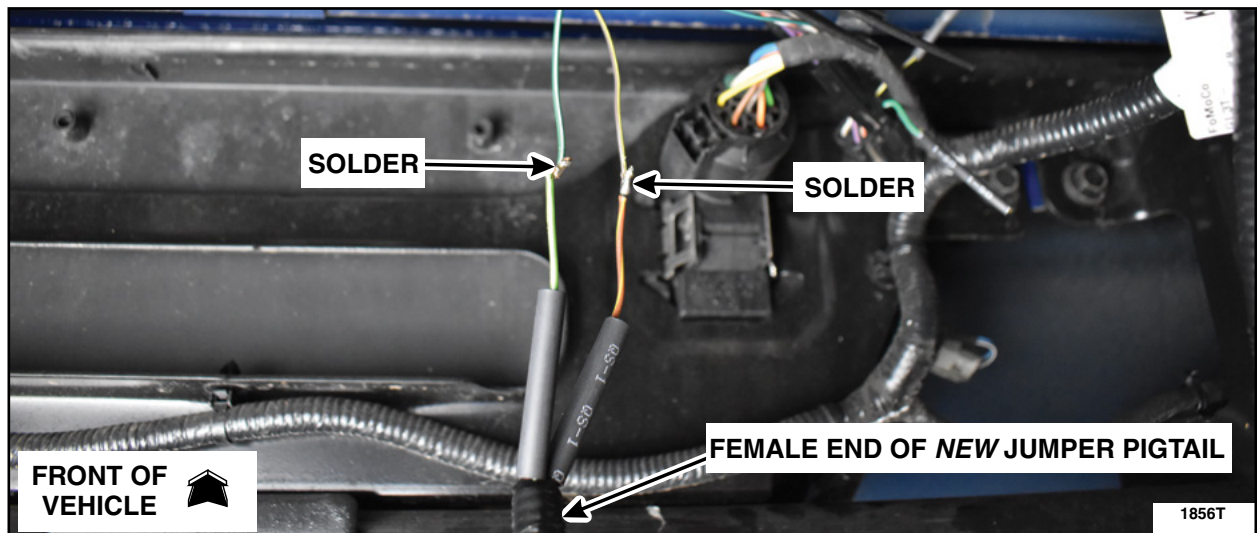

FIGURE 22
25. Solder the twisted wires of the female connector. See Figure 22.